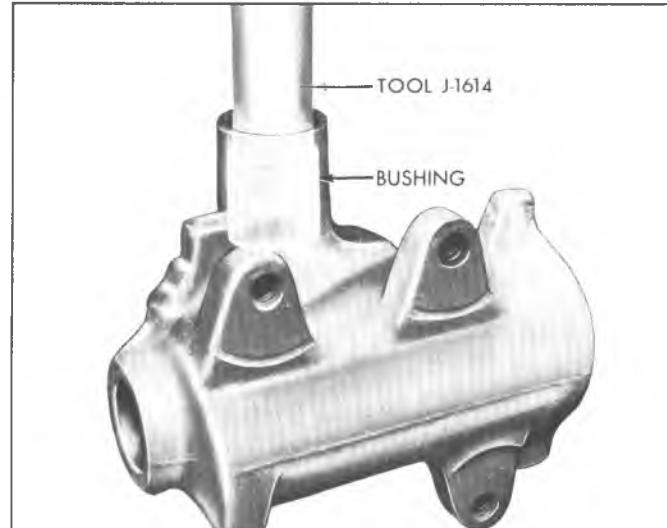

Fig. 8--Removing Pitman Shaft Bushing-Typical
1. Support the steering gear housing in an arbor press and press the pitman shaft bushing (2 bushings on Corvette and G10-30 Series Trucks) from the housing using Tool J-1614, inserted from the lower end of the housing (fig. 8).